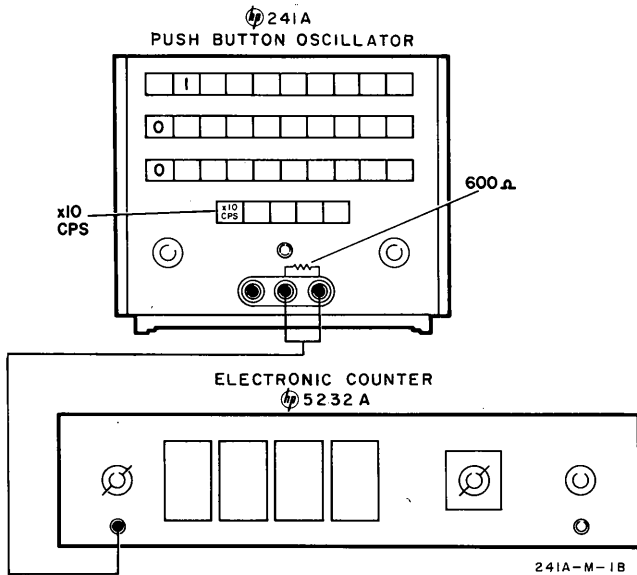

Figure 5-1. Frequency Check Setup
- a. Connect Model 241A as shown in Figure 5-1.